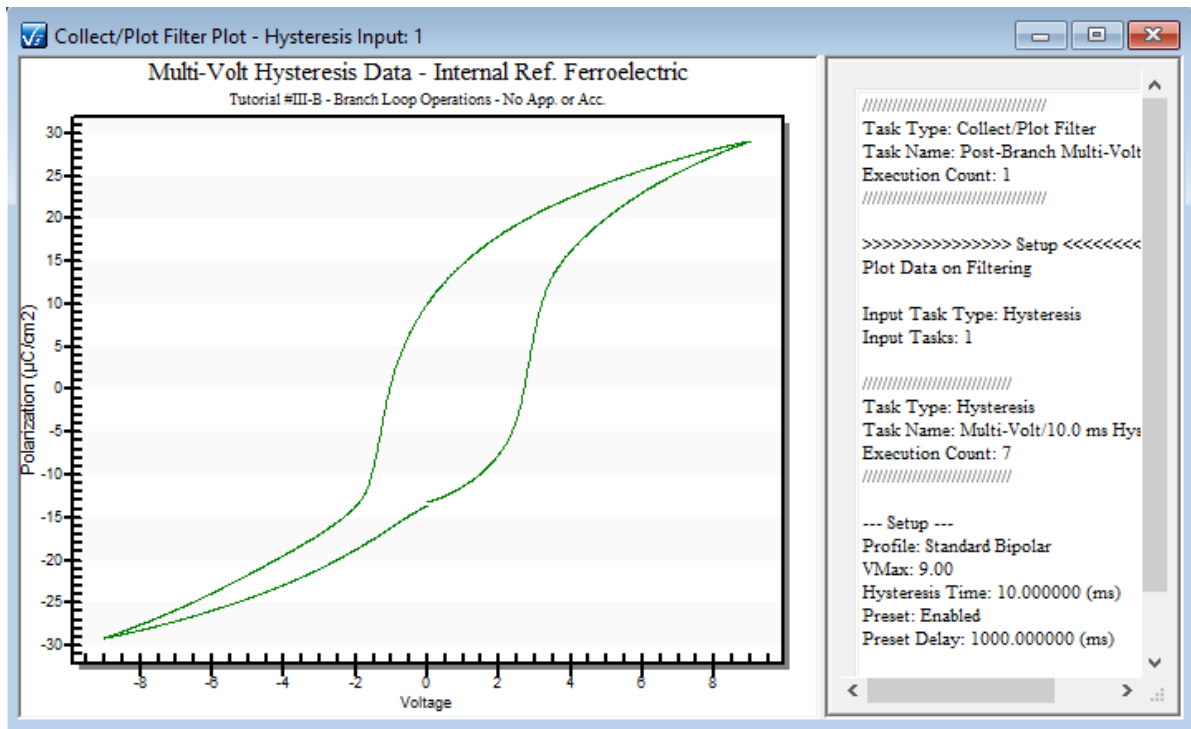

Figure 19 - Data Presented By Filter After the Branch Loop Terminates. No Accumulate or Append.
- Execute the CTD. When the experiment has finished, the Vision window will appear as in **Figure 19**.